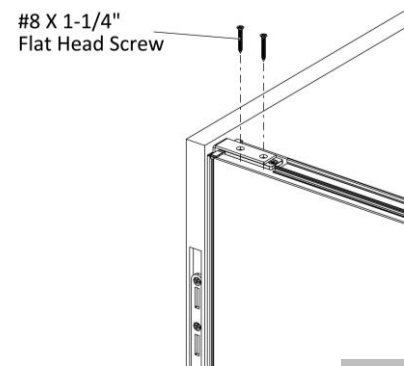

Figure 4
- Drive two #8 X 1-1/4" Flat Head Screws through the holes in the gallery panel top bracket into the standard panel, (Figure 4).